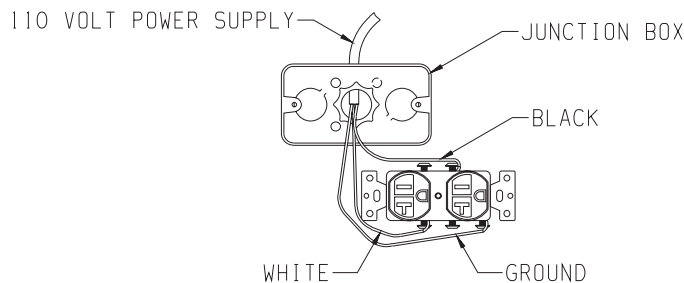

Figure 20
**NOTICE:** Junction box on right side of fireplace must be pre-wired at time of fireplace installation for use with blower assembly. A standard wall ON/OFF wall switch or optional SCV1 Variable Speed Control Kit should be installed to activate power to the fireplace, and control the operation of the FBB5 Blower assembly. It is recommended that installation of the wiring be performed by a qualified electrician. **See Figure 20.**